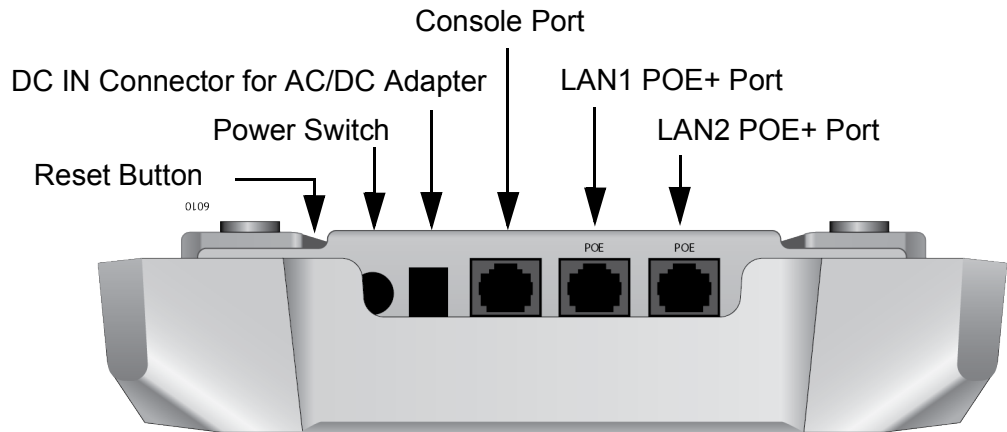

Figure 4. Back Edge View
The back edge view is illustrated in Figure 4.
- Power Switch** The Power Switch on the back panel in Figure 4 on page 26 turns On or OFF the access point when power is supplied to the access point only from the AC adapter, not from PoE LAN ports.
- Reset Button** The access point has a Reset button on the back edge in Figure 4 on page 26 for returning the parameter settings of the device to their default values. You might reset the access point if you want to discard its current configuration or if you forgot the manager password and so cannot manage the device.